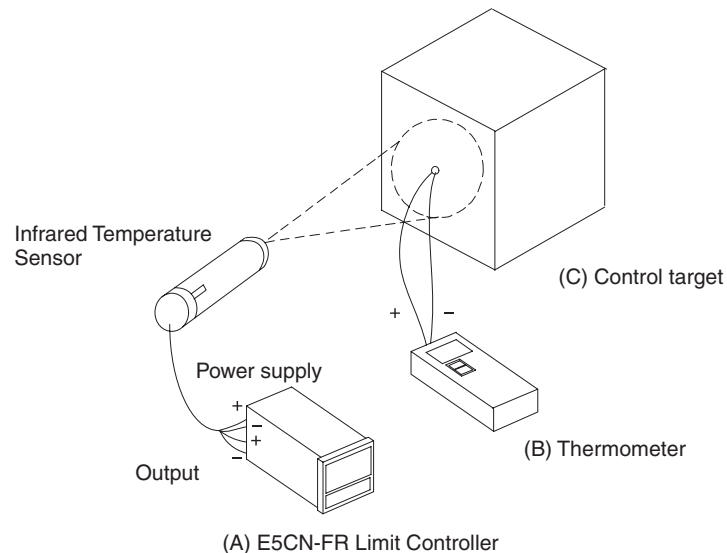

Figure 1 Offset Configuration for an Infrared Temperature Sensor
1. In the configuration shown in Figure 1, adjust the temperature of the controlled system so that it is near the limit setting value. Assume that the control target temperature (C) and the thermocouple temperature (B) are the same.
2. Check the control target temperature (B) and the Controller readout (A). Subtract the Controller readout temperature (A) from the control target temperature (B), and set $\bar{I}NSL$ and $\bar{I}NSH$ to the result as the input shift value. The shift is illustrated in .
- After setting the input shift values, check the Controller readout (A) and the control target temperature (B). If they are almost the same, this completes shifting the temperature input.